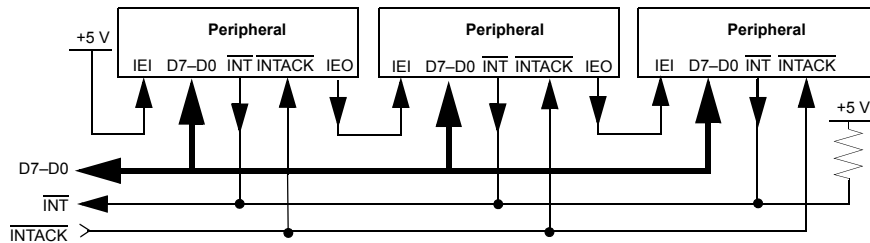

Figure 8. SCC Interrupt Priority Schedule
Interrupt Pending (IP), Interrupt Under Service (IUS), and Interrupt Enable (IE). Operation of the  $\overline{IE}$  bit is straight forward. If the  $\overline{IE}$  bit is set for a given interrupt source, then that source can request interrupts. The exception is when the MIE (Master Interrupt Enable) bit in WR9 is reset and no interrupts can be requested. The IE bits are Write only. The other two bits are related to the interrupt priority chain (see Figure 8). As a microprocessor peripheral, the SCC can request an interrupt only when no higher priority device is requesting one, that is, when IEI is High. If the device in question requests an interrupt, it pulls down  $\overline{INT}$ . The CPU responds with  $\overline{INTACK}$ , and the interrupting device places the vector on the data bus.